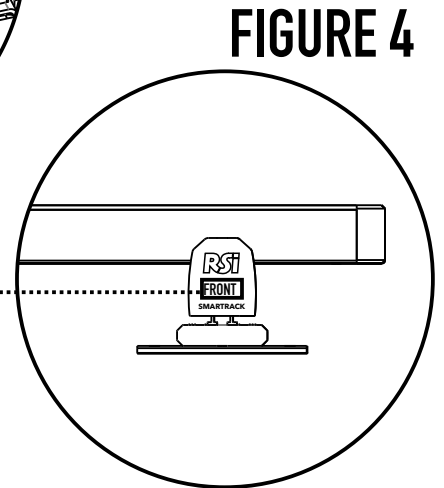

FIGURE 4
2. IDENTIFY THE END OF THE SMART RACK WHICH IS LABELLED AS THE FRONT. [SEE FIGURE 4]